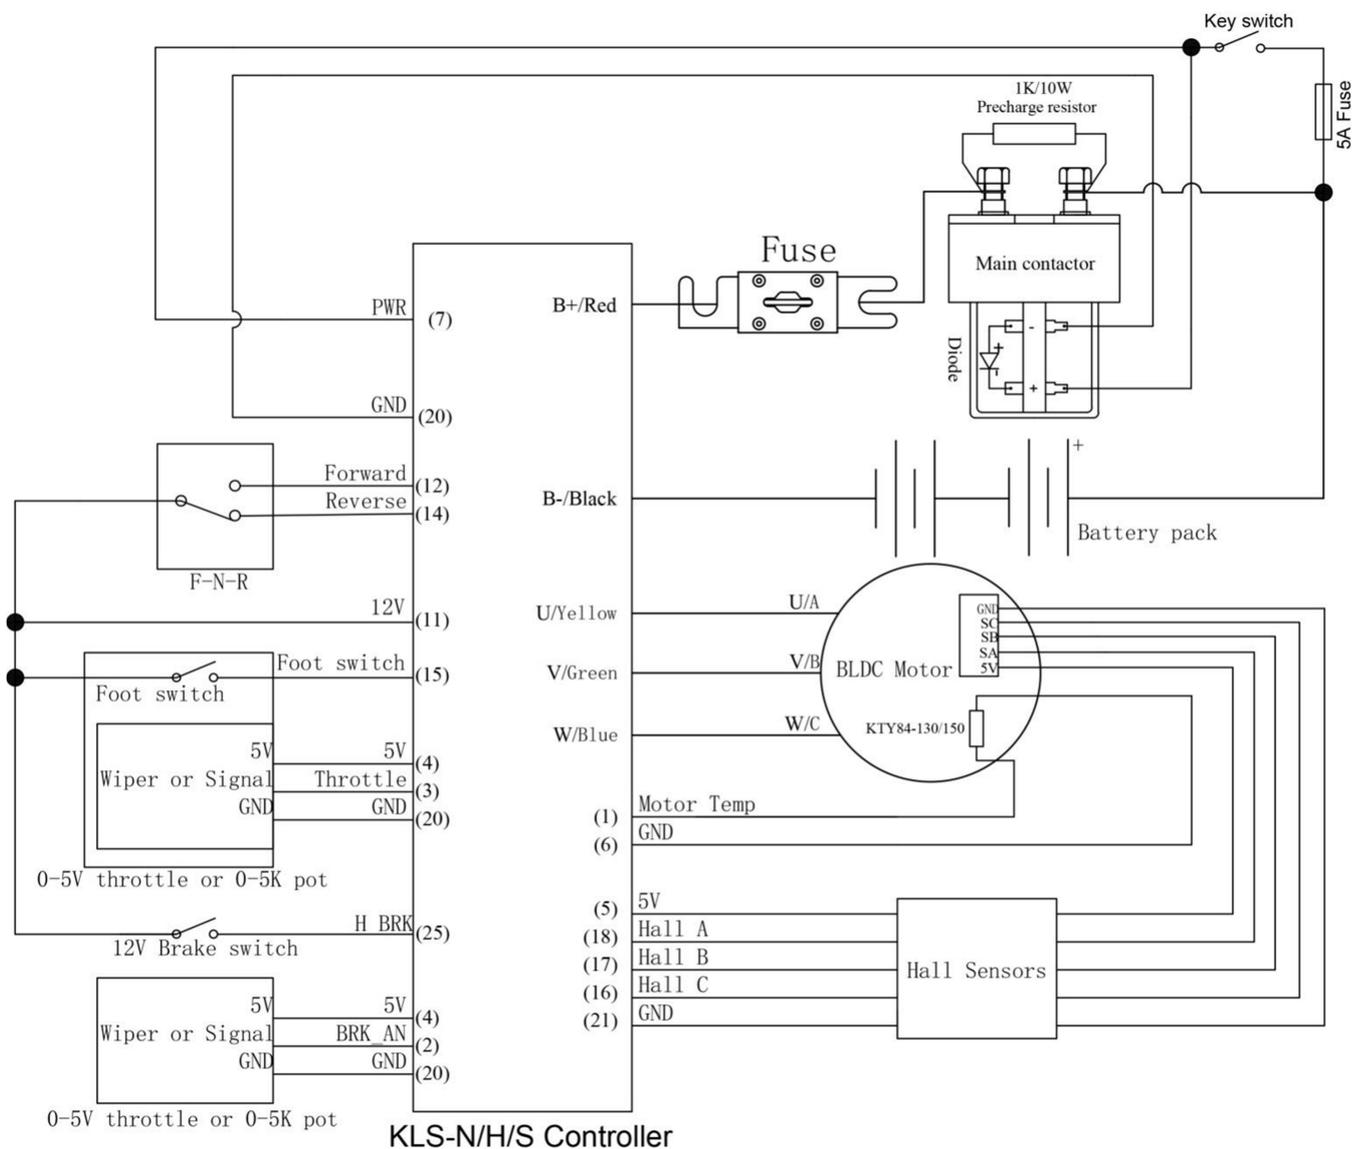

Figure 11: KLS-N controller standard wiring
1. Connect the controller and the motor according to the standard wiring diagram (Figure 11). Please make sure there is no load on the motor shaft before starting the programming.